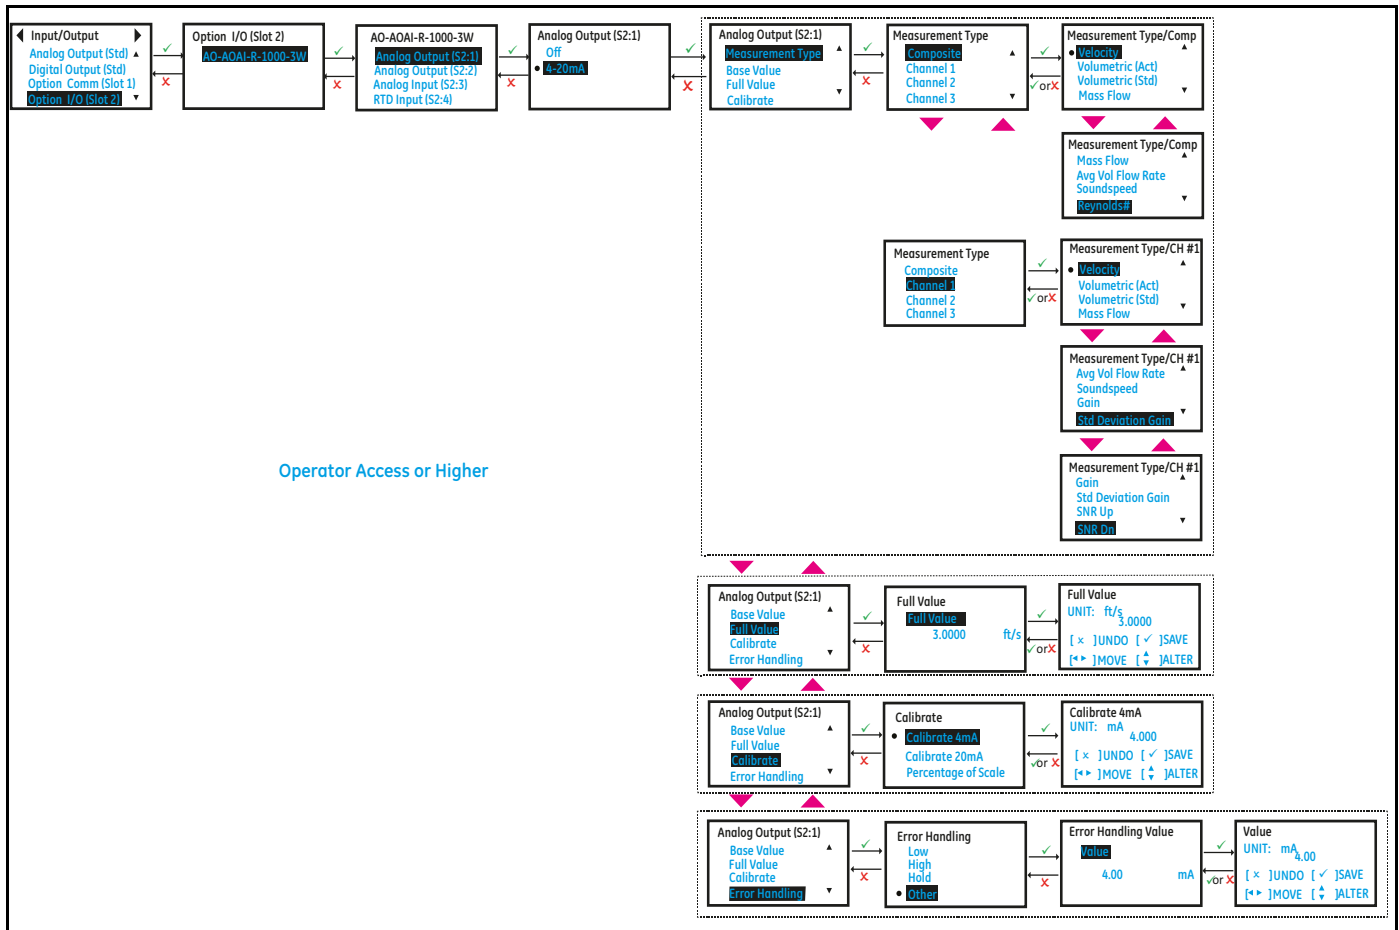

Figure 29: Setting up Option I/O Analog Output
4. If you are connecting an Analog Output, choose 4-20mA option. Figure 29 below, shows the options available.